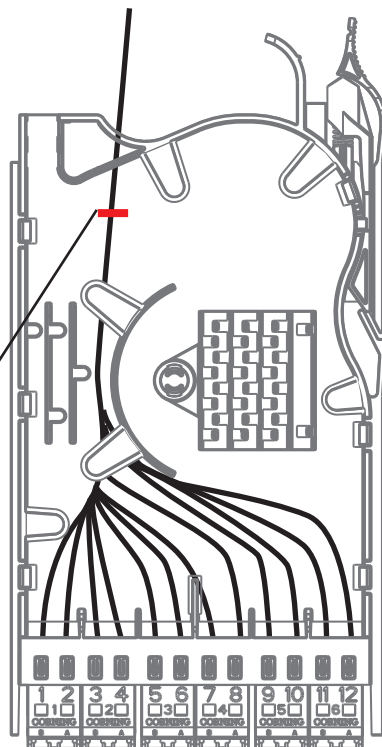

Abb.18 / Fig.18
4.4.2 Route pigtails as shown in Figure 18.